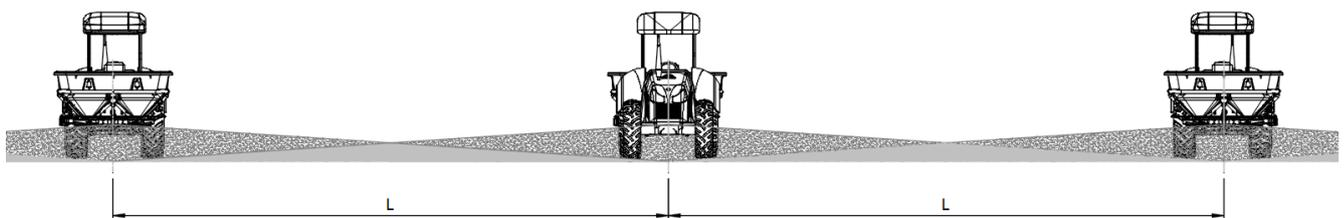

Figure 4.8 - Ex. triangle spreading - 100% overlap
The Mounted Spreader can be used to spreading to the full width (L) of the reach without using the devices shown above. For this type of work, which is the most common, the machine does a spreading scheme identical to the one shown in the following figure (Figure 4.8), usually in the shape of a triangle, with approximately 100 per cent overlap.